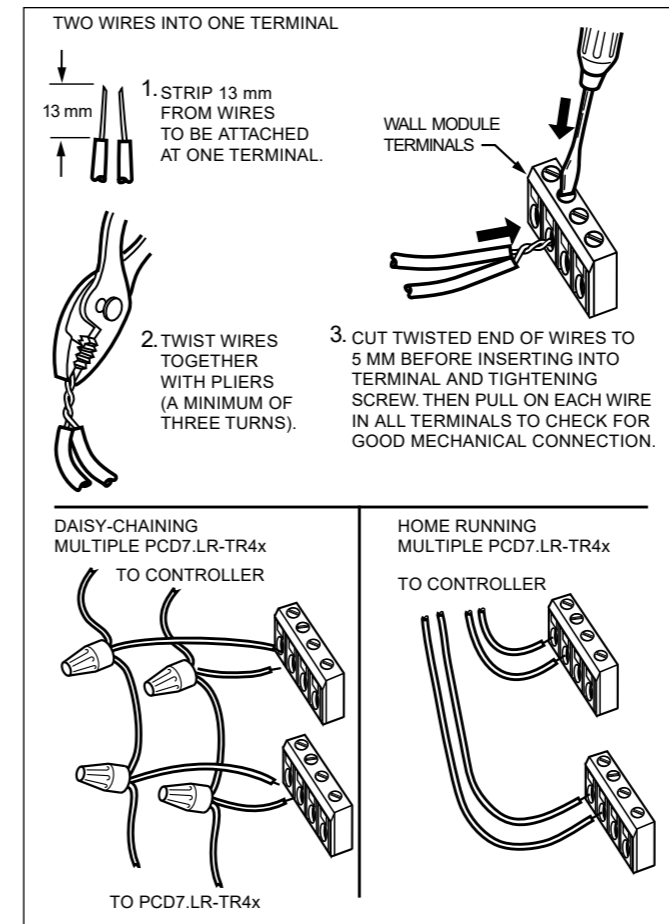

Fig. 5. Options for Wiring Multiple PCD7.LR-TR4x
1. For single wires, strip 5 mm; for multiple wires going into one terminal, strip 13 mm insulation from the conductor. See Fig. 5 for wiring multiple PCD7.LR-TR4x.